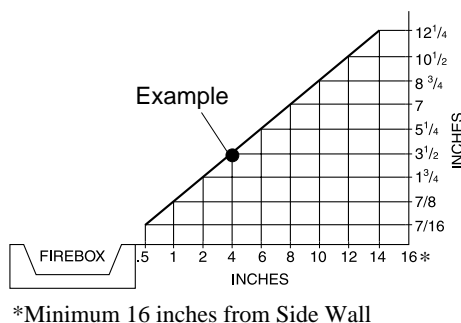

Figure 4 - Minimum Clearance for Combustible to Wall
**⚠ WARNING:** Maintain the minimum clearances shown in Figure 4. If you can, provide greater clearances from floor, ceiling, and joining wall.
- A. Clearances from the side of the fireplace cabinet to any combustible material and wall should follow diagram in Figure 4. *Example:* The face of a mantel, bookshelf, etc. is made of combustible material and protrudes 3 1/2" from the wall. This combustible material must be 4" from the side of the fireplace opening (see Figure 4).